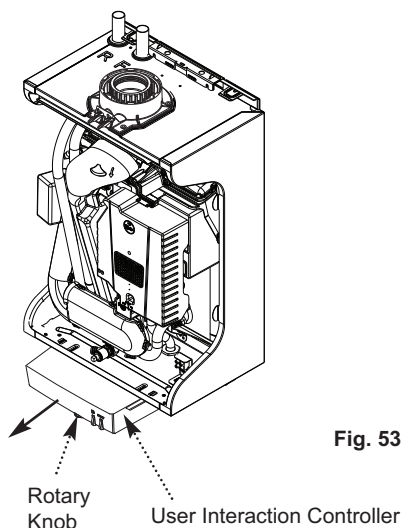

Fig. 53
10.3.12 User Interaction Controller (Fig. 53)